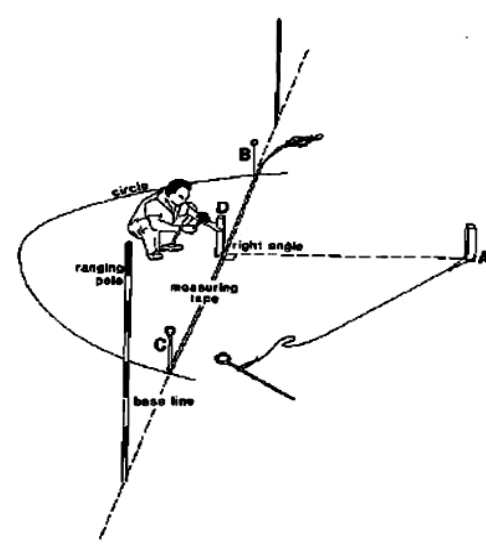

Fig.10. Setting out a perpendicular line, Step 2
Peg (D) is placed exactly half way in between pegs (B) and (C). Use a measuring tape to determine the position of peg (D). Pegs (D) and (A) form the line perpendicular to the base line and the angle between the line CD and the base line is a right angle (see Fig.10).